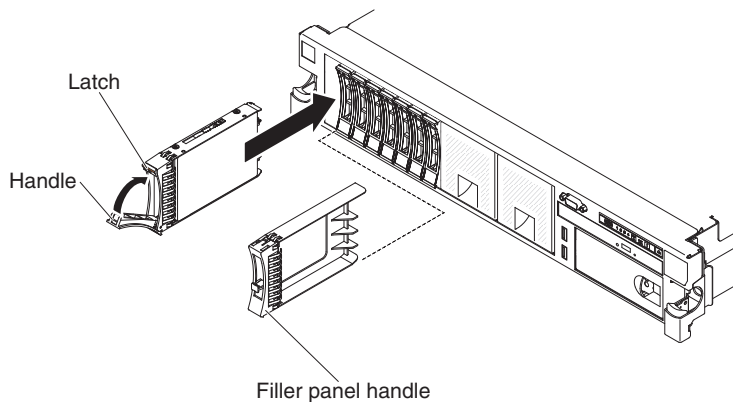

Figure 84. Removing a 2145-DH8 boot drive
5. Gently pull the drive assembly from the slot, as shown in Figure 84 on page 102.